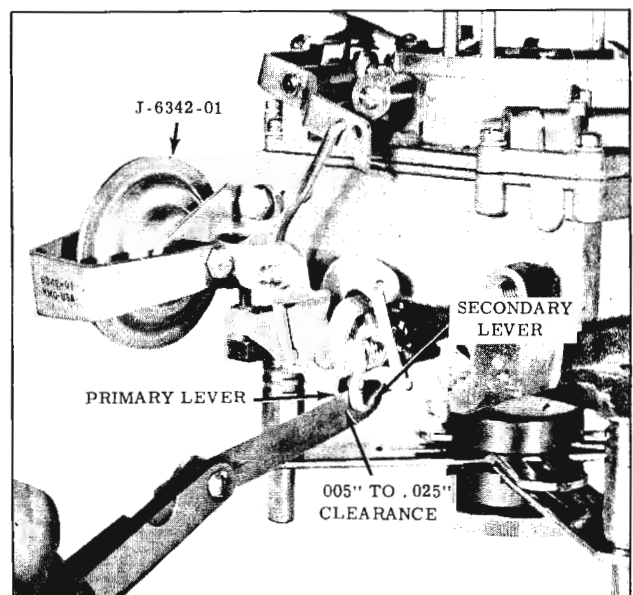

Fig. 9-30 Secondary Actuating Lever Adjustment
3. Remove slack from linkage and insert a feeler gauge between the actuating lever and the primary lever. (Fig. 9-30)